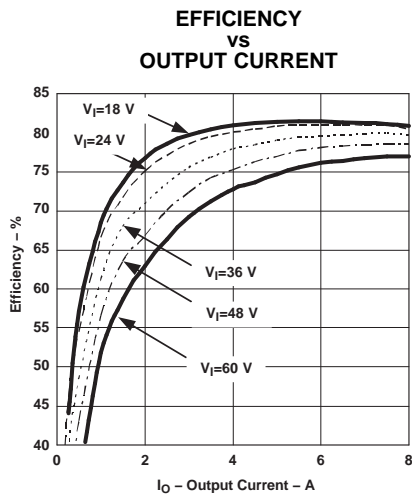
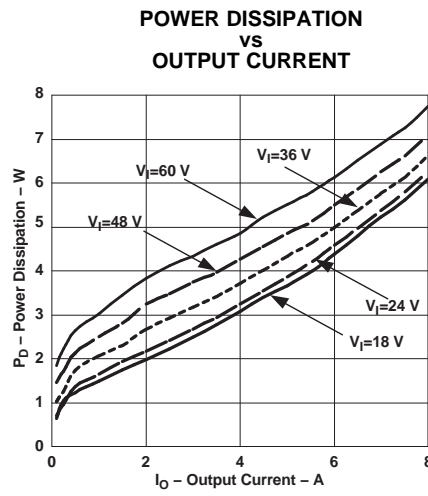
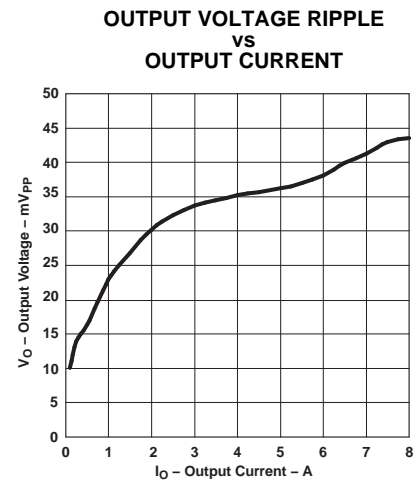

Figure 6.
Figure 7.
Figure 8.
- (3) All data listed in Figure 6, Figure 8, and Figure 7 have been developed from actual products tested at 25°C. This data is considered typical data for the dc-dc converter.